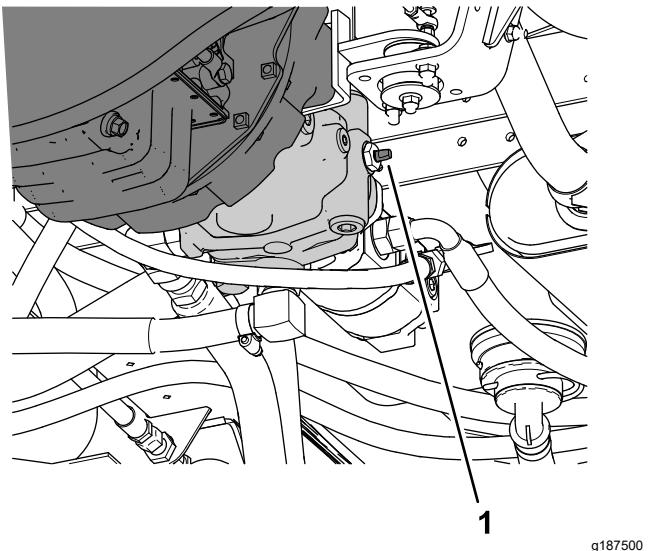

Figure 92
3. Rotate the tow valve (Figure 92) 90° in either direction to open the tow valve.